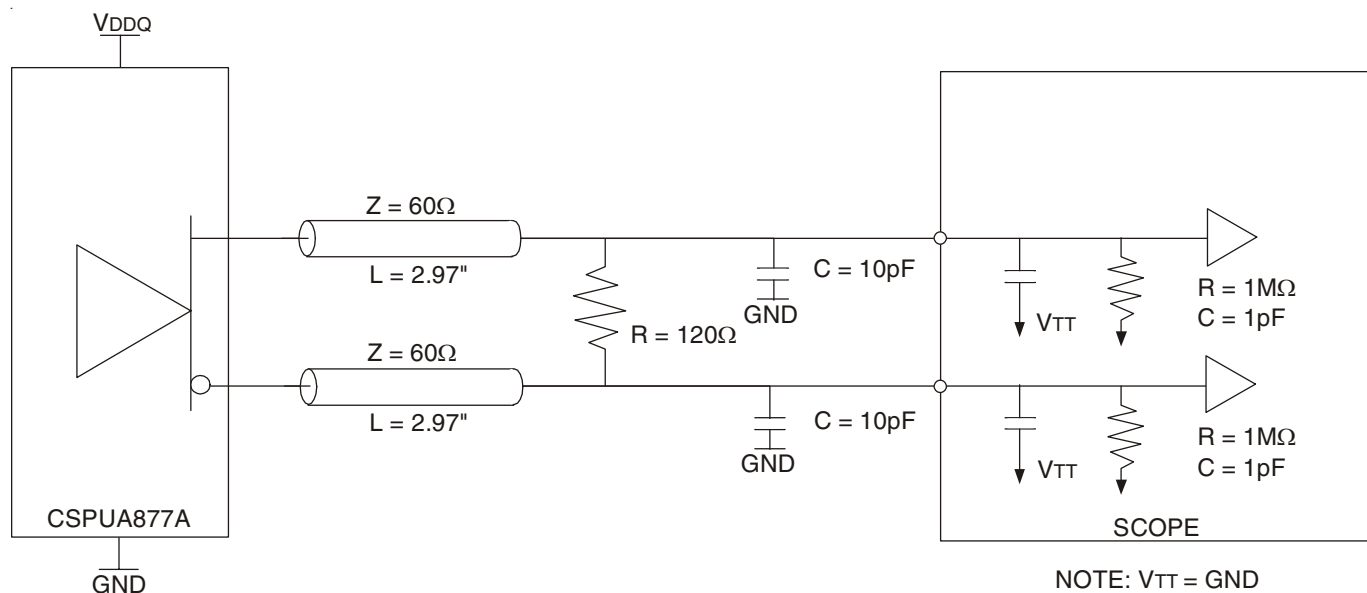

Figure 1: Output Load Test Circuit 1
- There are two different terminations that are used with the above AC tests. The output load shown in figure 1 is used to measure the input and output differential pair cross-voltage only. The output load shown in figure 2 is used to measure all other tests, including input and output slew rates. For consistency, use 50 Ω equal length cables with SMA connectors on the test board.
- In the frequency range of 271 - 410MHz, the min and max values for t_{JIT}(PER) and t_{(ϕ)DYN}, and the max value for tsk(O), must not exceed the corresponding min and max values of the 160 - 270MHz range. Also, the sum of the specified values for | t_{JIT}(PER) |, | t_{(ϕ)DYN} |, and tsk(O) must meet the requirement for Σt (SU), and the sum of the specified values for | t_{(ϕ)DYN} | and tsk(O) must meet the requirement for Σt (H).